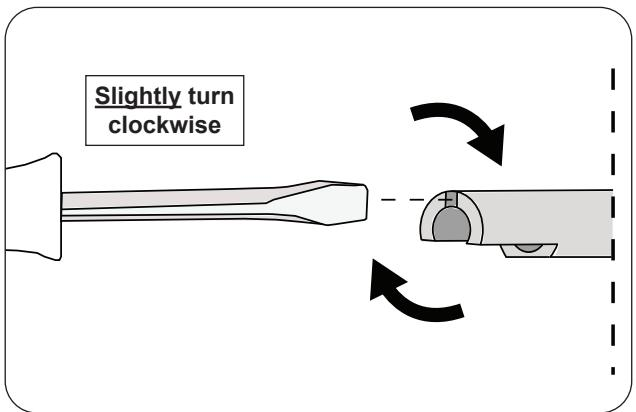

Fig. 46-2 Stem adjustment
2. Insert a flathead screwdriver into the split portion of the stem and GENTLY turn the screwdriver clockwise. Be cautious! Only a slight turn is needed as the stem is flexible. See Fig. 46-2.